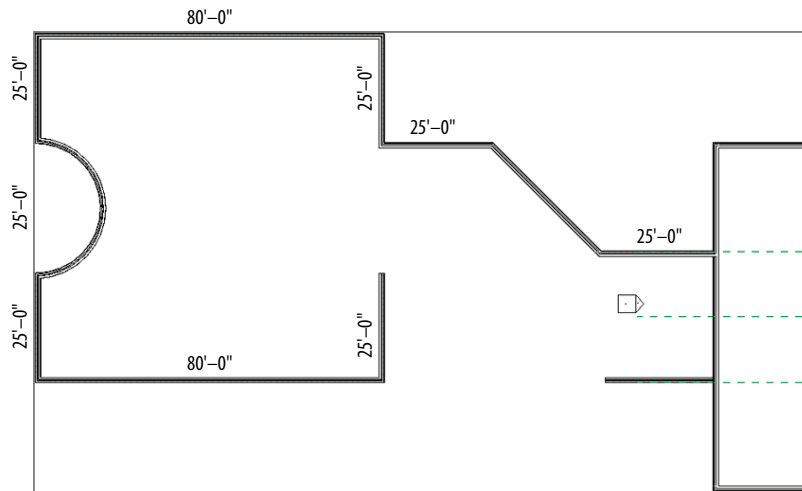

FIGURE 2.10: The building up to this point
27. Press Esc. Your building should look like Figure 2.10.